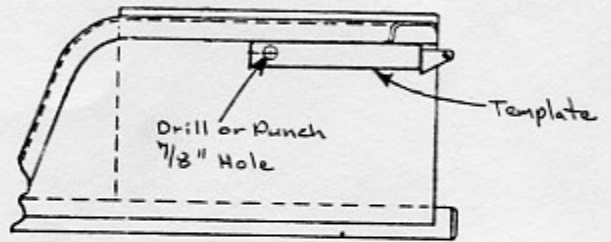

Fig. 2 - Battery Box-Left Side
Note: If the 7/8 inch hole is pre-punched as shown in Figure 2, it may not be necessary to remove batteries. Wires can be "fished" through frame opening with a long, stiff wire inserted from below the frame. Refer to Step 7.
5. Locate and punch or drill 7/8 inch hole in left side of rear battery box using template provided as shown in Figure 2. Remove any metal chips from inside battery box.